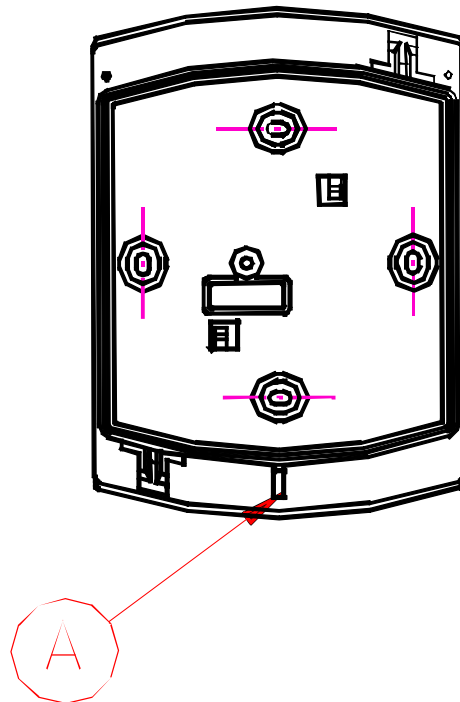

Fig 1: mounting direction (A) downwards
- *The opening (A) in the casing (see Fig 1) has to be installed downwards!*